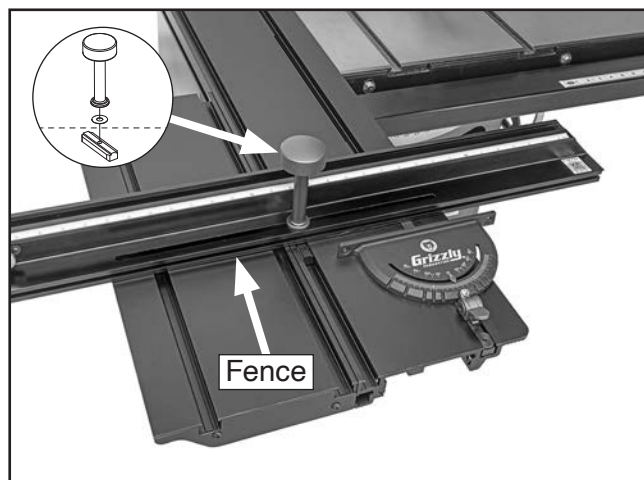

Figure 17. Pivot knob and nylon pad installed on fence.
36. Thread nylon pad and fence pivot knob onto T-bolt (see **Figure 17**). Do not tighten.